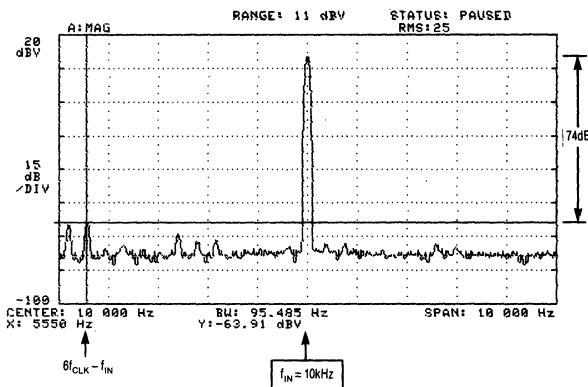

Figure 5B. Same as Figure 5A, but the AC Input Signal is 900mV, 10kHz
3. The number of alias signals increases when the input signal frequency increases, Figure 5B.
4. When the frequency, f_{IN} , of the input signal is less than f_{CLOCK} , the alias signal(s) amplitude(s) directly scale with the amplitude of the incoming signal. The output “signal to alias ratio” cannot be increased by just boosting the input signal amplitude. However, when the input AC signal frequency well exceeds the clock frequency, the amplitude of the alias signals does not directly scale with the input amplitude. The “signal to alias ratio” increases when the output swings closely to the rails, Figures 5B, 7. It is important to note that the